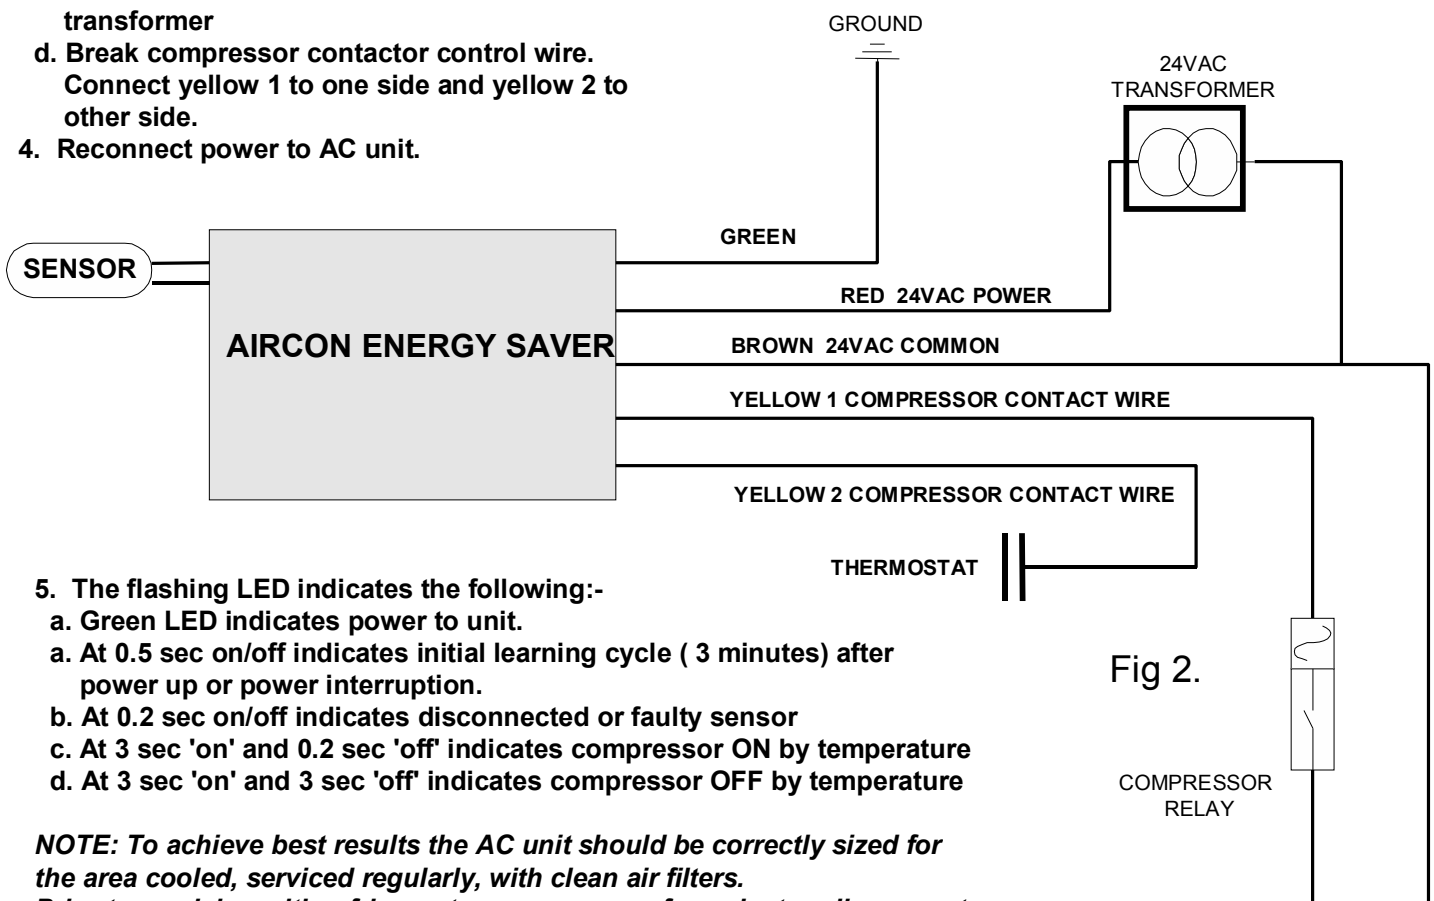

Fig 2.
3. Connect wiring as shown in fig 2.